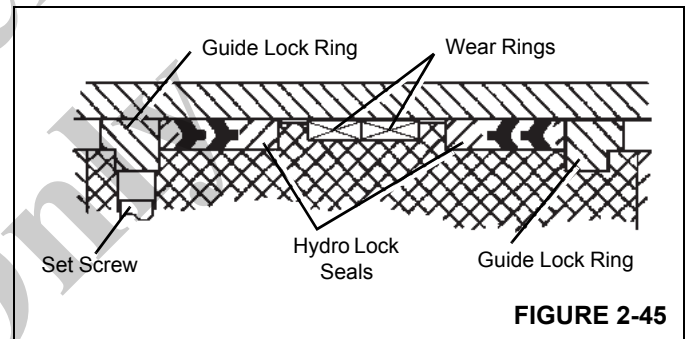

FIGURE 2-45
9. Install the guide lock rings, hydrolock seal assemblies, and wear rings to the outside of the piston (Figure 2-45).